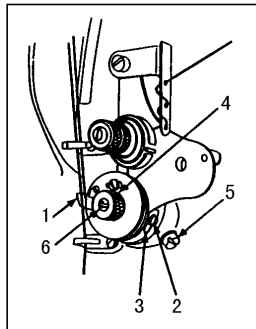

Fig.21
22. ADJUSTING THE THREAD CONTROLLER SPRING (Fig.21)